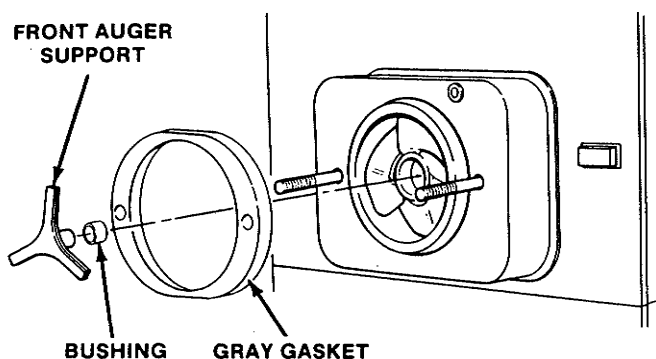

Figure 22. Removing Auger Support
- D. Remove the front auger support, bushing and gray gasket (Fig. 22).